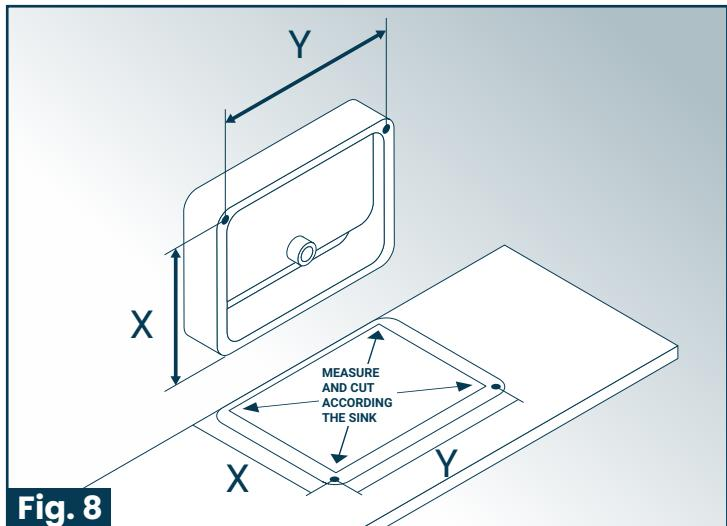

Fig. 8
4. Transfer the dimensions to your countertop using your sink as a template. The "X" and "Y" distance will be a fixed measurement based on your sink model. However, the position of the sink on the counter will vary on how far out from the wall you prefer-- be sure to consider the drain and faucet placement when determining the final sink position. (Fig. 8)